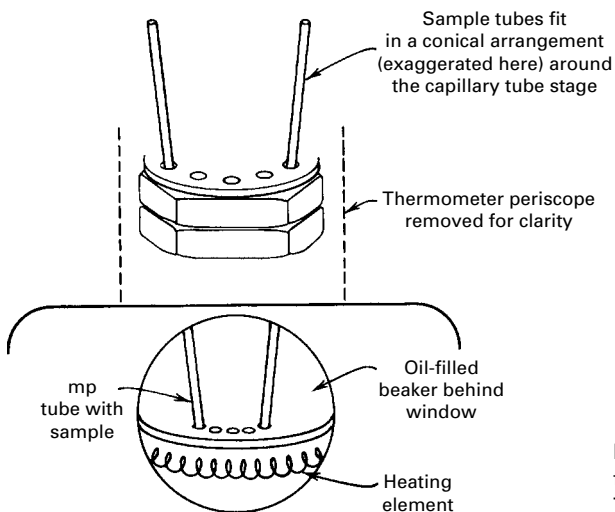

FIGURE 12.7 Close-up of the viewing system for the Thomas-Hoover apparatus.
5. Insert your capillary tube in one of the capillary tube openings in the capillary tube stage. *This is not simple.* Be careful. If you snap a tube at this point, the entire unit may have to be taken apart to remove the pieces. You have to angle the tube toward the center opening and angle the tube toward you (as you face the instrument) at the same time (Fig. 12.7). The capillary tube has to negotiate a second set of holes, so you have to angle the tube toward the center.